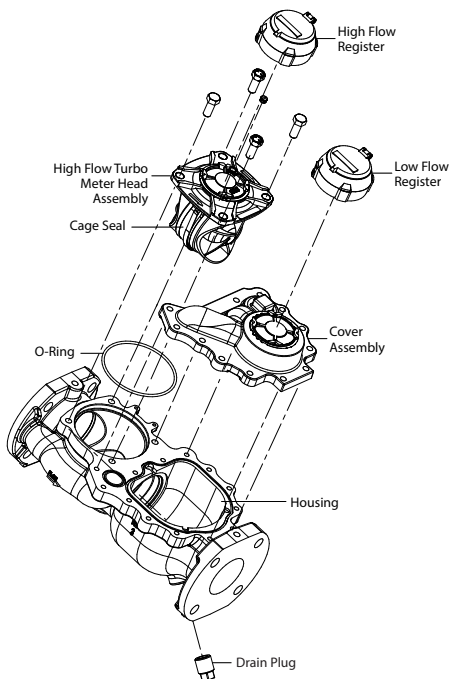

Figure 8: Removing the high flow turbo meter head assembly
A typical installation would be equipped with drain and piping valves. To inspect or replace components of the High Flow Turbo Head Assembly, close the upstream and downstream valves. However, if the installation does not have a drain valve, proceed as follows to relieve pressure. See *Figure 8 on page 12*.
4. Remove the retaining ring that holds down the calibration drive plate, located under magnet carrier magnet (see Figure 8). Remove drive plate. Rotate calibration ring until pin clears slot of cage. Take hold of the nose cone/straightening vanes and turn clockwise. Pull the nose cone assembly out from the measuring element insert. Remove rotor assembly.
A typical installation would be equipped with drain and piping valves. To inspect or replace components of the Low Flow side, close the upstream and downstream valves. However, if the installation does not have a drain valve, proceed as follows to relieve pressure. See Figure 8 on page 12.